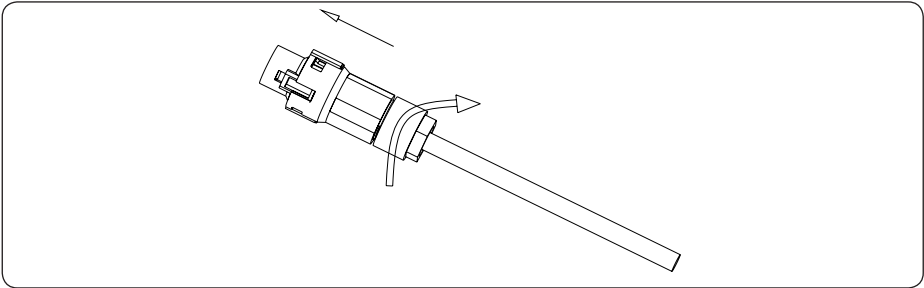

Figure 4-16
4) According to the arrow direction push the threaded sleeve to make it connected with the AC terminal head and then rotate the cable gland clockwise to lock it. As shown in figure 4-16: